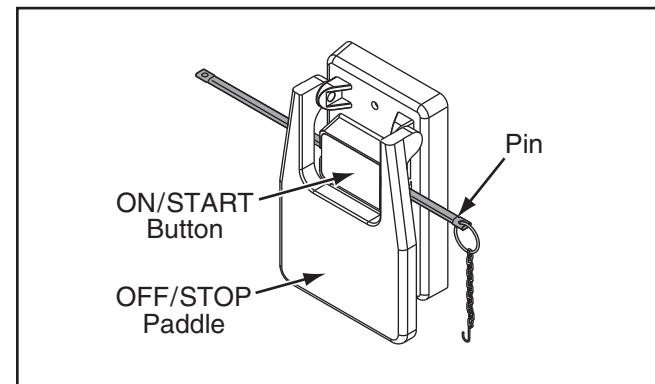

Figure 36. Disabling pin through switch button.
4. Insert switch disabling pin through green ON/START button (see **Figure 36**).